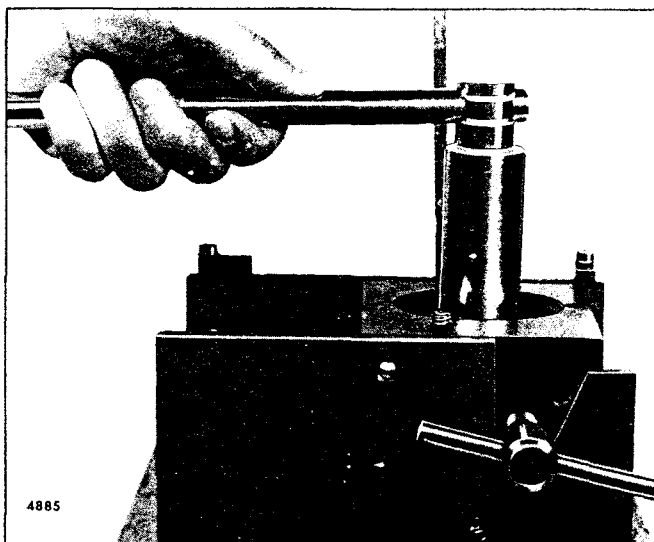

Fig. 12 – Removing Injector Nut Using Tool J 4983-01
4. Using socket J 4983-01, loosen the nut on the injector body (Fig. 12).